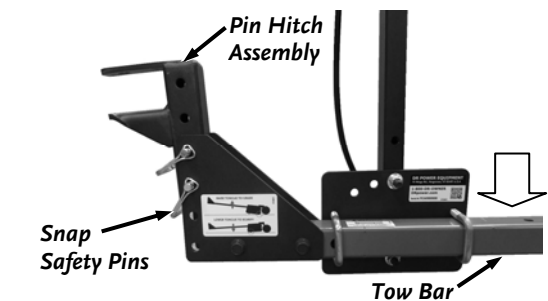

Figure 35
- Position the Tow Bar to the lowest position for most aggressive scarifying (**Figure 35**). See "Adjusting the Mold Board" for other Mold Board settings.